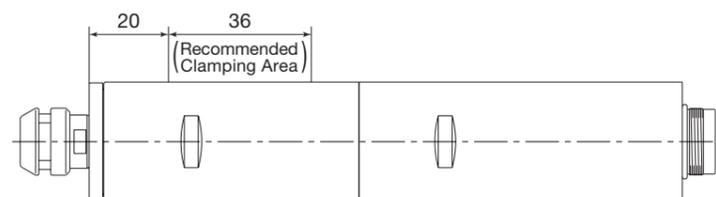

Fig. 22
- (1) When mounting the motor/spindle, refer to the recommended clamping area. (Fig. 22)